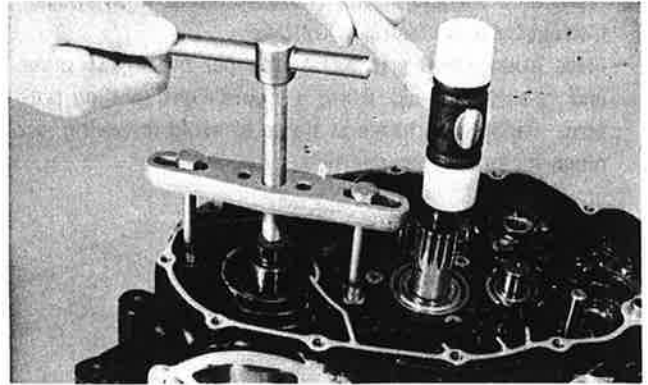

Fig. 3-2-19
2. Install crankcase separating tool as shown. Use a thick plain washer to protect end of crankshaft. (Fig. 3-2-19)
3. As pressure is applied, alternately tap on the front engine mounting boss, the transmission shafts and the shift drum. (Fig. 3-2-19)